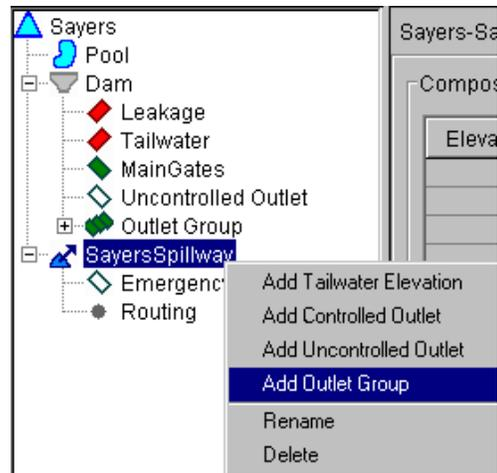

Figure 10.11 Diverted Outlet Shortcut Menu: Add Outlet Group
On the Physical tab, you may use either the component-specific menus in the Reservoir Editor's menu bar or the right-click shortcut menu (Figure 10.11) to add an Outlet Group as a component of a Dam, Diverted Outlet, or other Outlet Group.
2. Choose **Add Outlet Group** from the shortcut menu (Figure 10.11) or from the component's menu in the Reservoir Editor's menu bar.